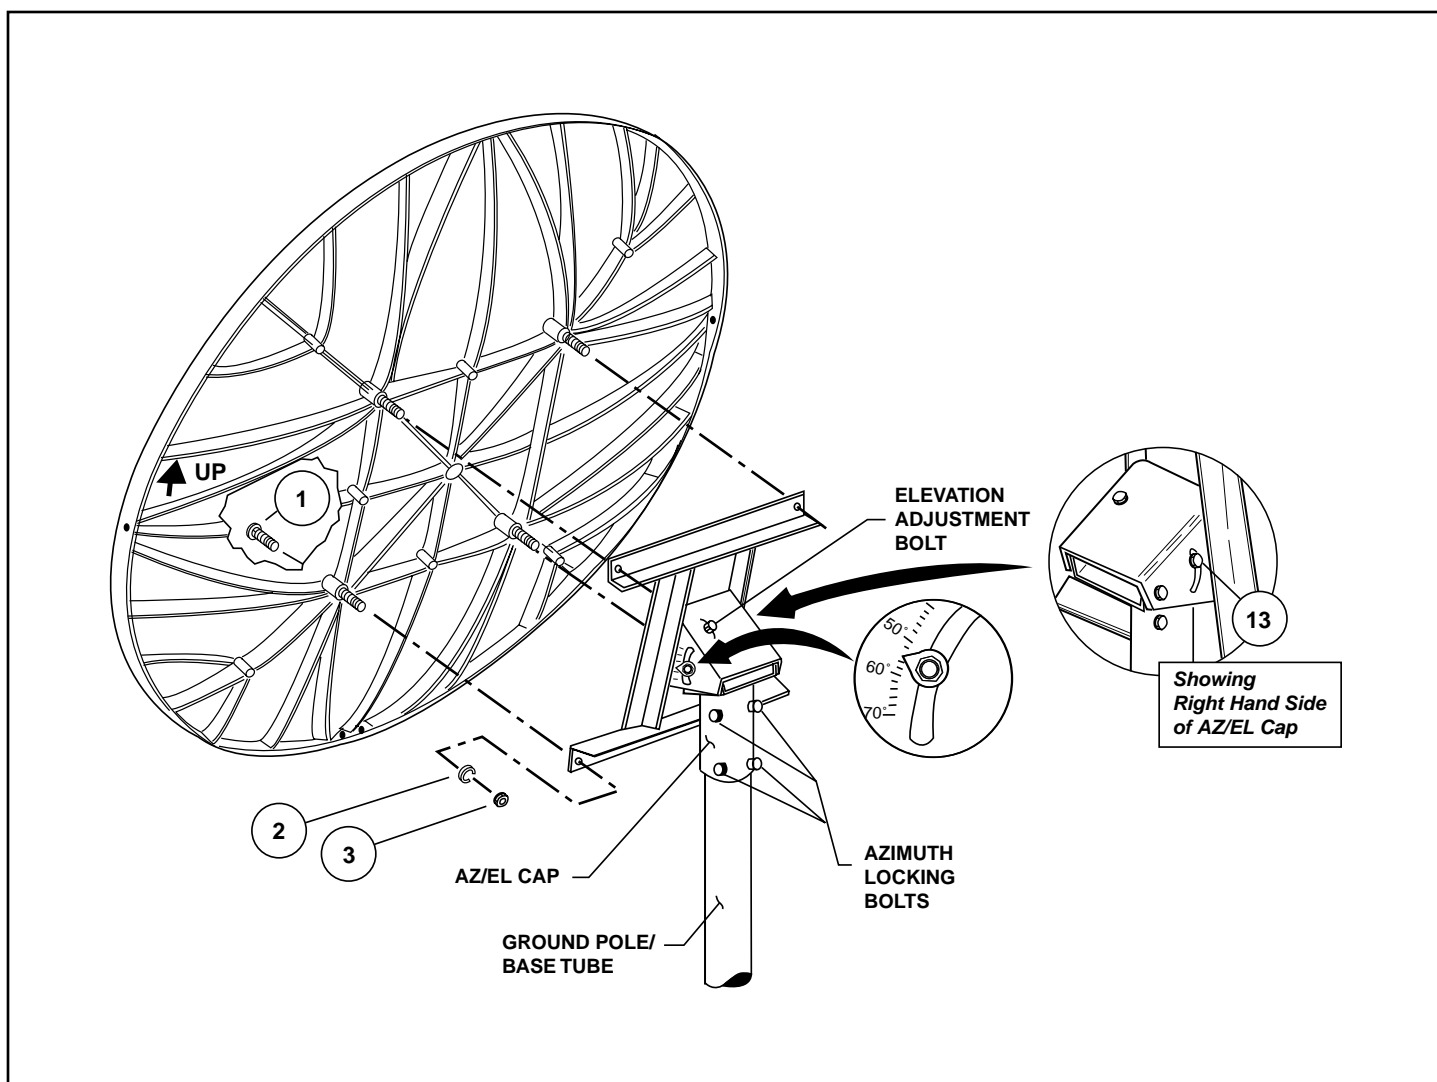

FIG. 1.0 - INSTALLING AZ/EL CAP AND ANTENNA
On right hand side of AZ/EL cap housing, loosen flange lock nut (13) one full turn, loosen other nuts, on both sides of AZ/EL cap housing, a quarter turn. Turn elevation adjustment bolt counterclockwise and increase elevation setting to approximately 50° or 60°. Refer to Figure 1.0. **NOTE: Bolts will be tightened and torqued during antenna alignment procedure. Do not tighten at this time, leave bolts loose.**
Insert ½" x 4" round head bolts (1) into antenna mounting holes, as shown in Figure 1.0. Lift antenna and align mounting bolts with holes in AZ/EL cap and place antenna down on AZ/EL cap. Secure with ½" lock washers (2) and hex nuts (3). Torque to 20 ft-lbs (27 N-m).
IMPORTANT: For correct orientation of antenna the "UP" arrow must be as shown in Figure 1.0.